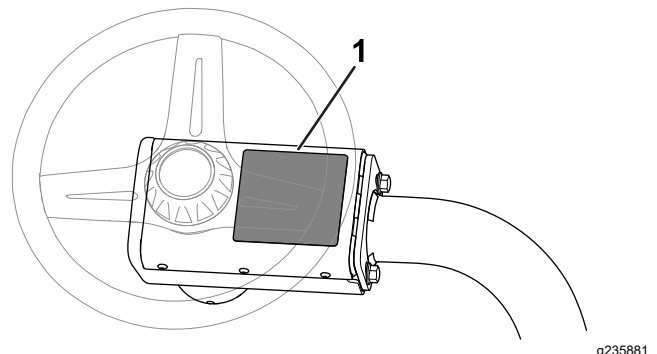

Figure 14
- Apply the CE warning decal (Part No. 136-8505) over the existing warning decal (Part No. 136-8506). Figure 14 shows the warning decal location.